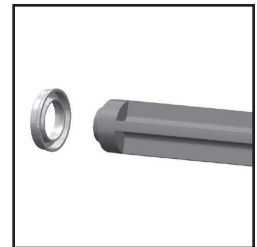

Fig. 32
6. Clean air valve bores in gun body with the brush supplied in the kit. (See fig 32)
7. Place new rear seal onto Service tool; grooves must fit in service tool form. (See fig 32)